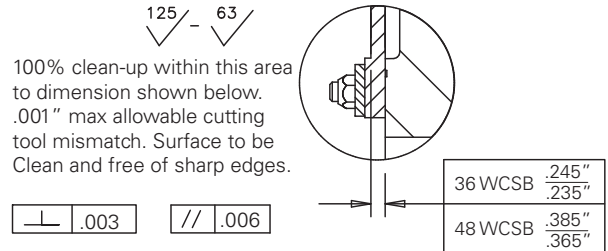

Figure 16
- 4.5.17 Machining of the wear surfaces is required for the 36WCSB and 48WCSB tensioner / brake assemblies after replacement of the wear plates or the adjoining friction material. See Figure 16 for machining specifications. Clean all wear surfaces after machining to remove any residual contaminates.